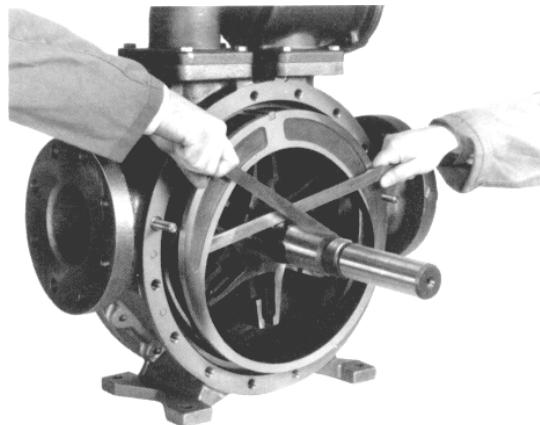

Figure 9 – Liner Removal
5. Remove the head capscrews (21) and head stud nuts (21C). Two jackscrew holes are provided in the rim of the head to facilitate removal.
6. Remove the head (20 or 20A) from the casing (12), being careful not to nick or scrape the shaft.
7. The disc (71) will come off with the head assembly and is attached with four countersunk, allen-head machine screws (71A) and lockwashers (71B).
8. From the open side of the pump, grasp the rotor in the 3 and 9 o'clock positions, and gently pull the rotor and shaft (13) out of the head assembly remaining on the casing. **CAUTION:** Use care to avoid injury-the rotor and shaft is heavy and may have sharp edges.
10. Depending on the pump application, the liner (41) can be removed in two ways:
- a. If the pumpage is a clean, non-corrosive liquid, with low viscosity, the liner can usually be withdrawn from the casing by prying with two bars. Insert the tips of the bars into the port openings on either side of the liner, and partially remove the liner by prying against the rotor. Use a block under the bar, against the rotor, to bring the liner the rest of the way out (see Figure 9).